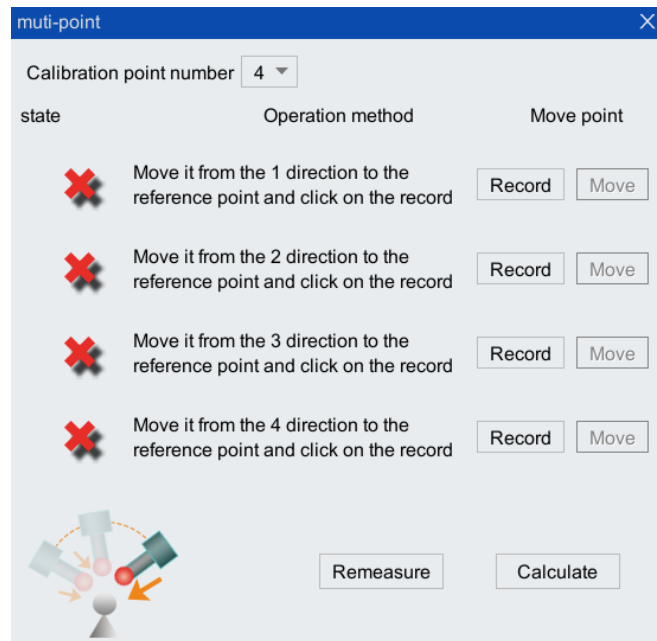

Figure 5-3 "multi-point" calibration interface
Step3. Click <multi-point> to pop up the configuration interface as shown in Figure 5-3.